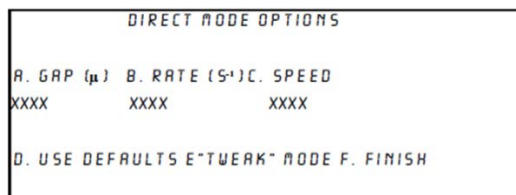

Figure 41: Direct Mode Options Screen
3. When in **Direct Mode**, choose **F: DIRECT MODE OPTIONS** as shown in Figure 41. Here is it possible to use the machine in non-standard ways.